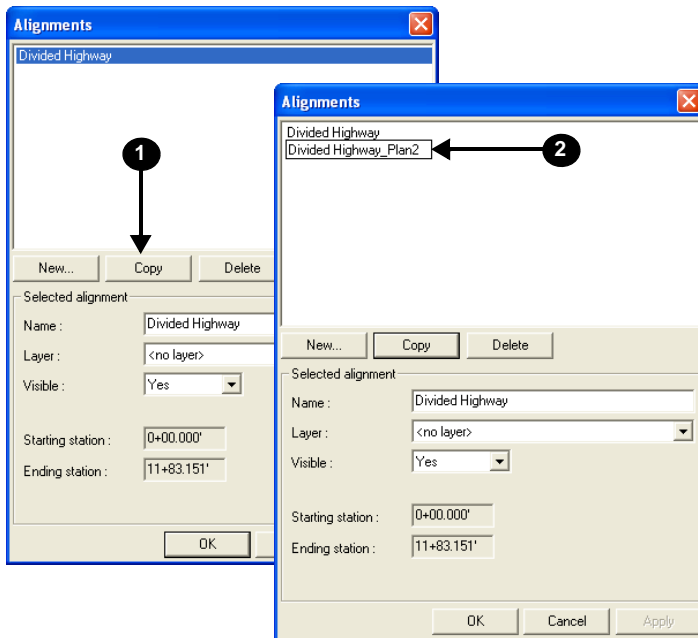

Figure 6-23. Copy and Name Alignment
1. On the **Alignments** dialog box, select the alignment to copy and press **Copy** (Figure 6-23).
2. Type a unique name for the new alignment and press **Enter** or click elsewhere on the screen (Figure 6-23).